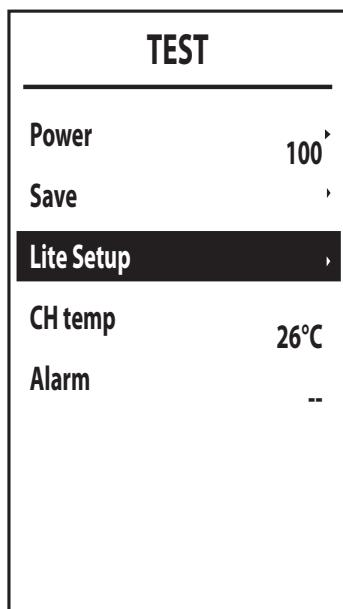

fig. 27
- Inside the **TEST** menu (see fig. 27), select **Lite Setup**.